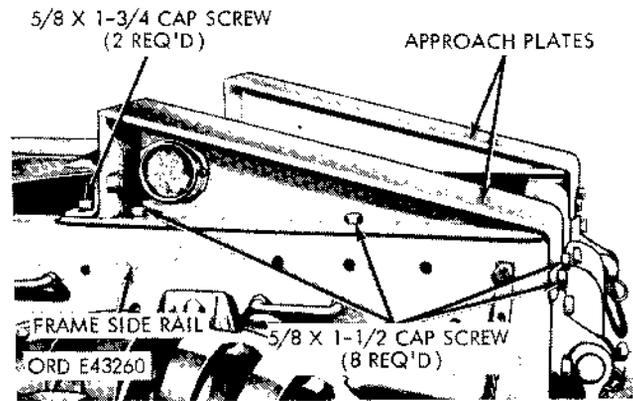
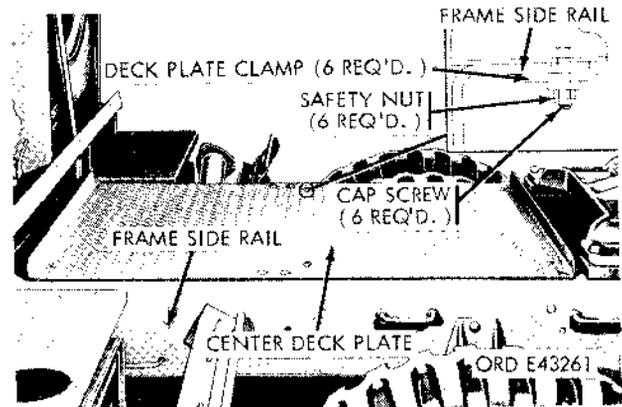
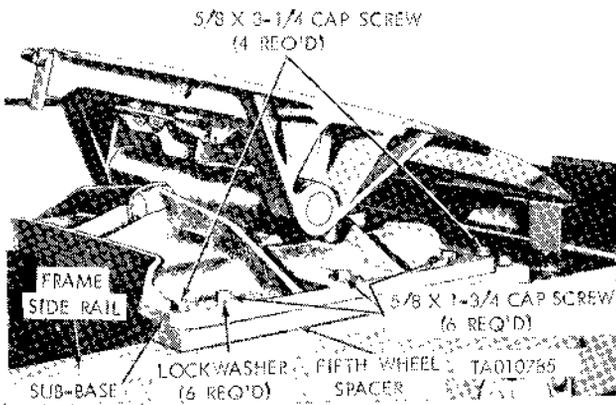

Figure 2-214. Approach plate—M52, M52A1, and M52A2.
Figure 2-215. Center deck plate—M52, M52A1, and M52A2.
Figure 2-213. Fifth wheel—M52, M52A1, and M52A2.
a. General. The fifth wheel assembly on the above models includes the fifth wheel, the approach plate, and the center deck plate. The fifth wheel (fig. 2-213) is bolted to the inside of the side rails. The approach plate (fig. 2-214) and center deck plate (fig. 2-215) are bolted directly to the frame left and right side rails.
b. Fifth Wheel (fig. 2-213).
c. *Approach Plate (fig. 2-214).*
d. *Center Deck Plate (fig. 2-215).*